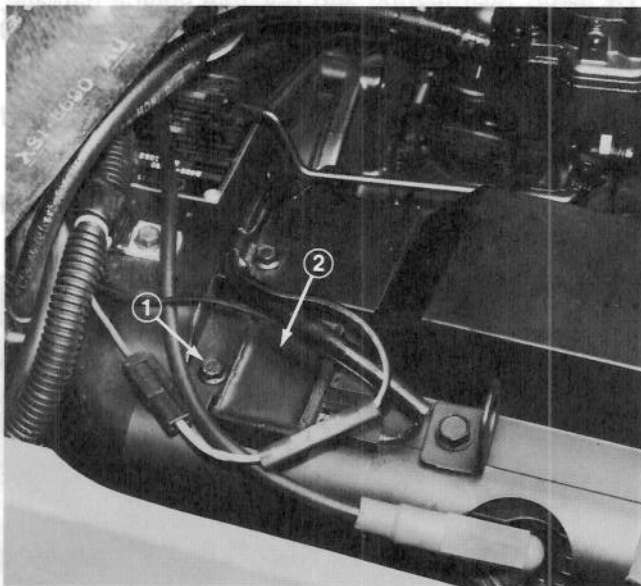

Figure 59
5. Remove self tapping screw securing voltage regulator to left engine housing (Fig. 59).